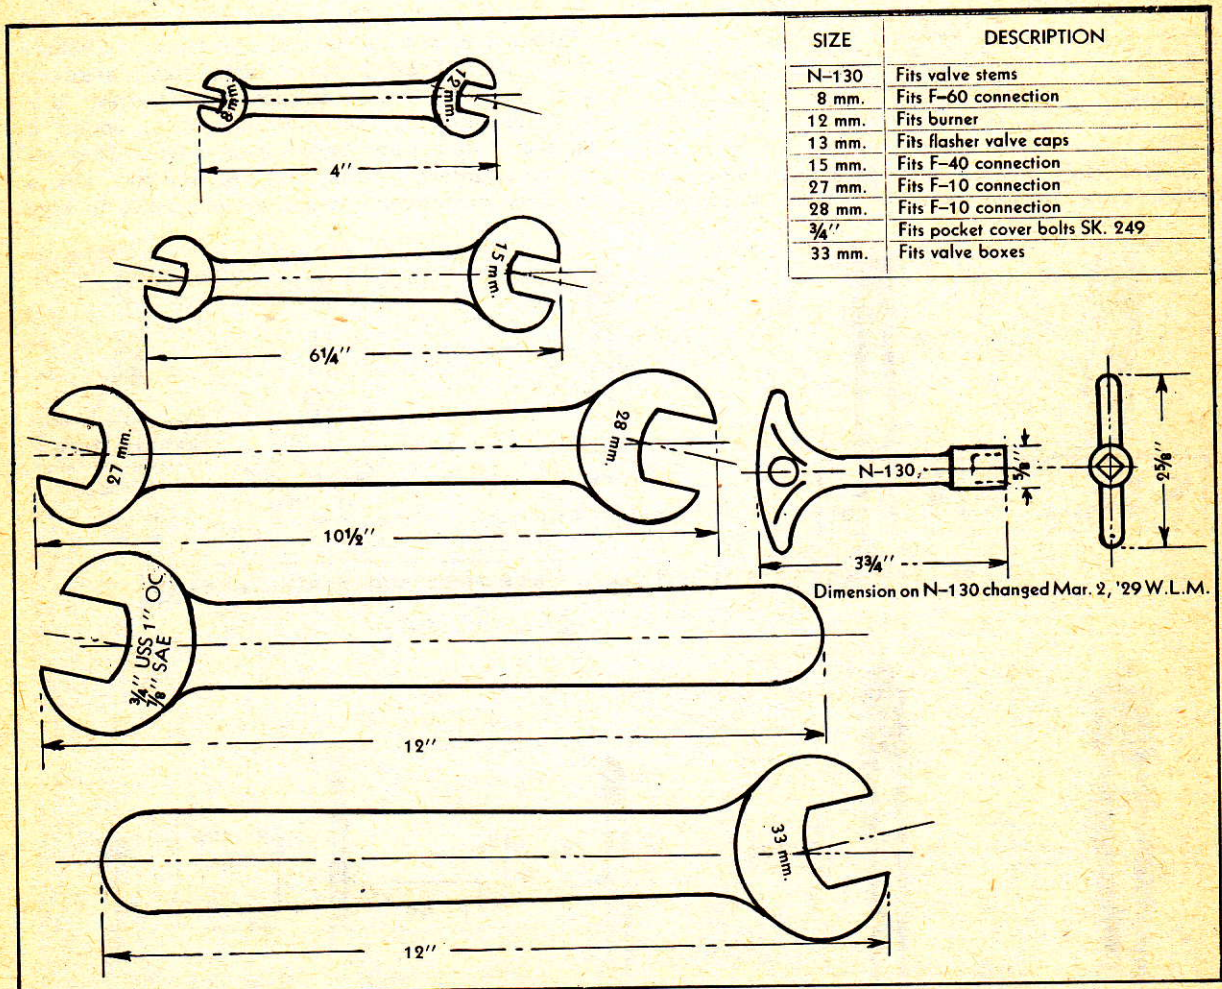

FIGURE 20-68.—Special wrenches for acetylene apparatus.
A. All of the following listed wrenches are double-ended except for the Tee wrench used on shut-off valves, and the three-fourths inch U. S. S. size, used on pocket cover bolts, and the 33 mm. size. (See fig. 20-68.)